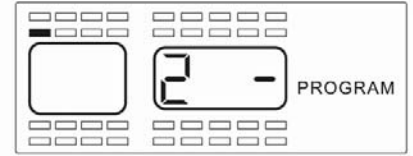
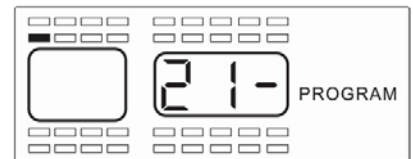

Figure 2-5
Figure 2-6
- 6) The center dash (-) of this digit will now blink (see Figure 2-5). Use the up and down button to change this digit to the number needed for the second digit of the sensor. When you have selected the correct number for the center section of this number press the right arrow button so the remaining dash (-) begins to flash of the three-digit number (see Figure 2-6).